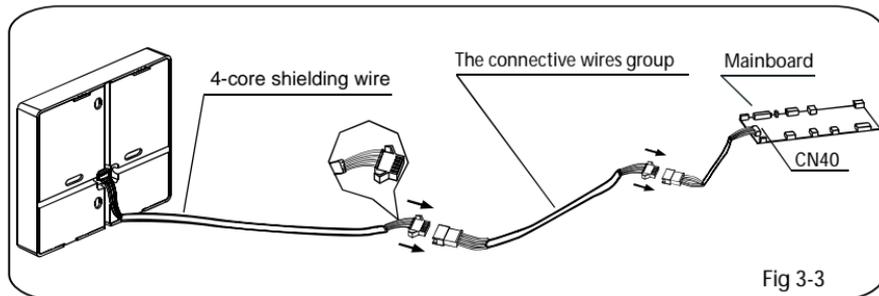

Fig 3-3
- Connect the female joint of wires group from the mainboard with the male joint of connective wires group. (See Fig.3-3)
- Please connect the other side of connective wires group with the male joint of wire group leads from wire controller. (See Fig.3-3)